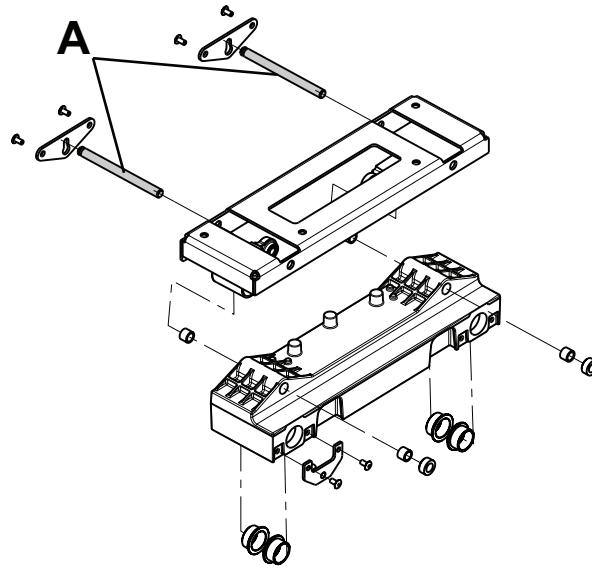

Figure 3 – Head end
1. Apply Syn-Tech-NS-18191-G grease (3000-200-700) to the glide rod surfaces (A) (Figure 3).